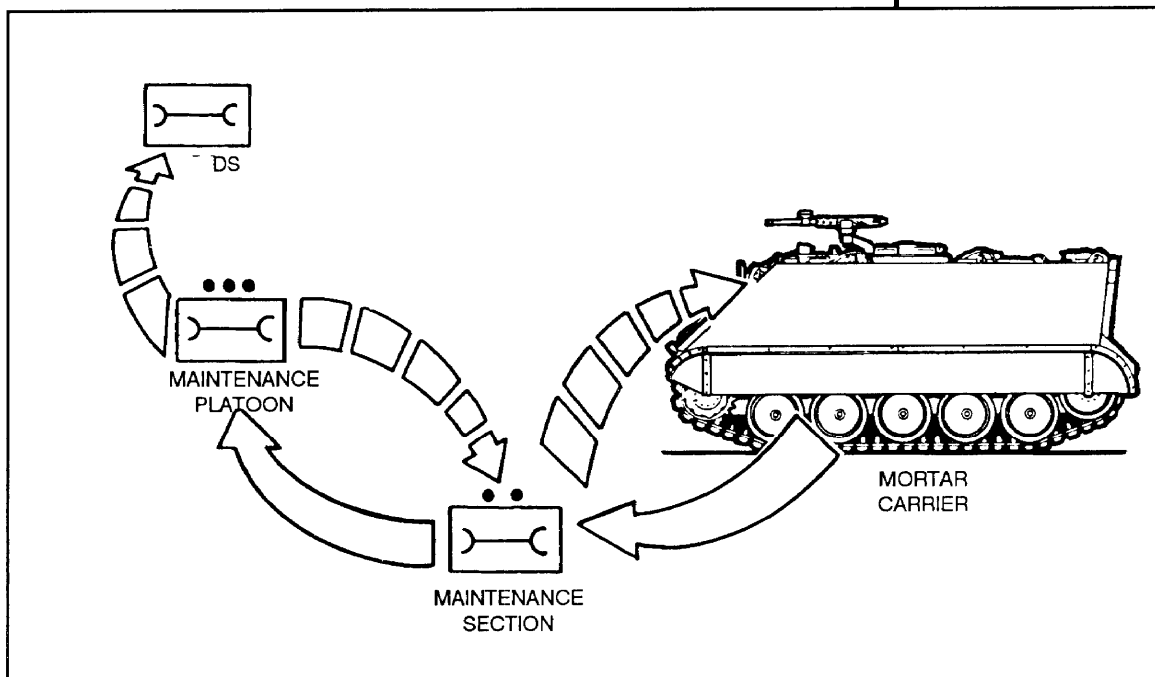

Figure 9-6. Maintenance flow.
b. Each line company maintenance section (H-Series TOE), except the headquarters company's, has a recovery vehicle. Recovery support for the company mortars is provided by the battalion maintenance and service section or the recovery section of the battalion maintenance platoon (Figure 9-6).